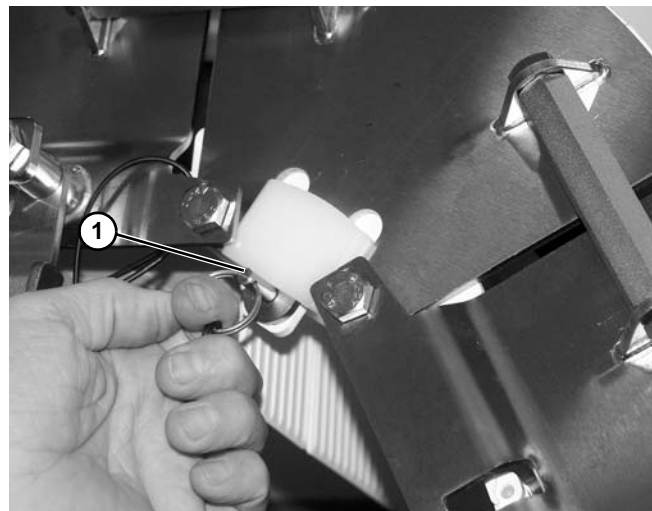
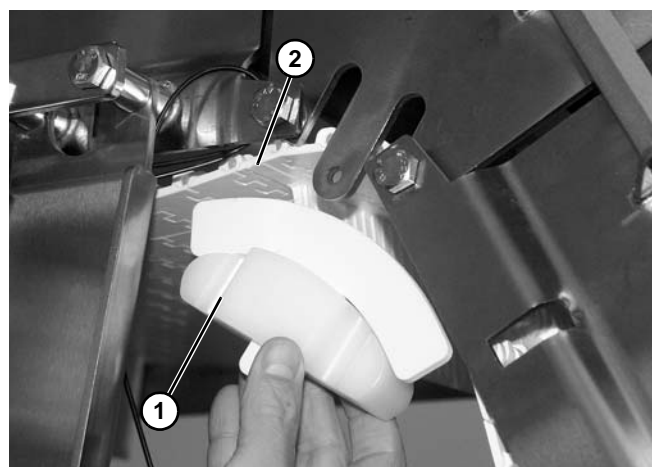

Figure 21
Figure 22
6. For Z-Frame conveyors, remove pull pin (**Figure 21, item 1**) and return shoe (**Figure 22, item 1**) on each side of upper knuckle. Guide the belt (**Figure 22, item 2**) under the return shoes and install each return shoe with pull pin.